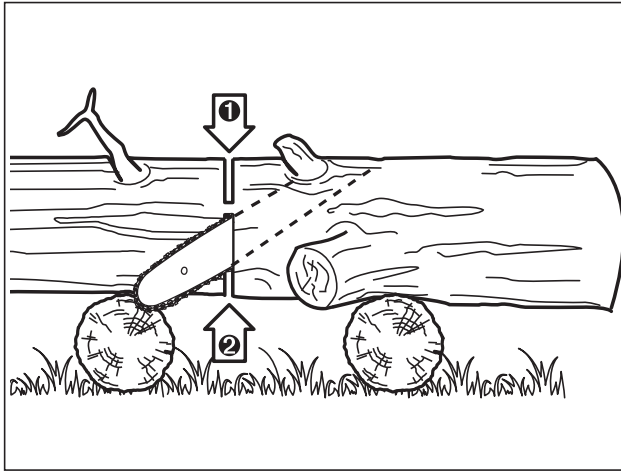

Fig. 26
- When the log is supported on both ends, cut 1/3 the diameter from the top (overbuck). Then make the finished cut by underbucking the lower 2/3 to meet the first cut(Fig.26).